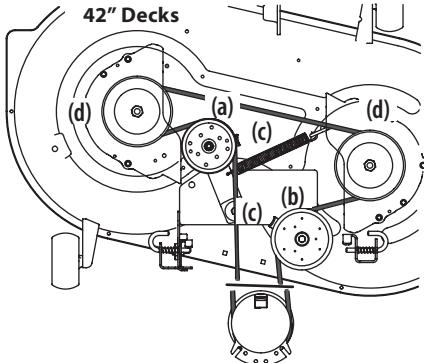
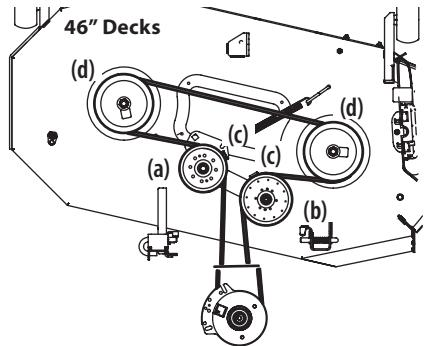
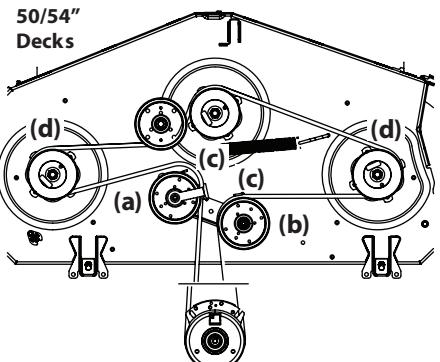
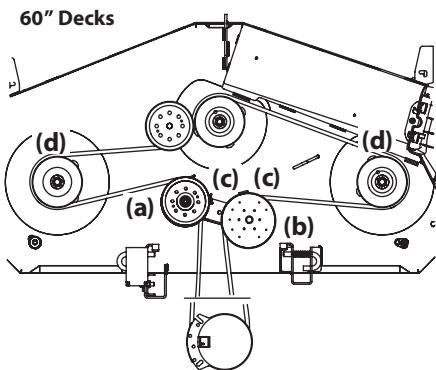

Figure 39
Figure 40
Figure 41
Figure 42
2. Loosen, but do not remove the hardware on the right (a) and left idler pulley (b). Refer to Figure 39 for 42" decks, Figure 40 for 46" decks, Figure 41 for 50" and 54" decks and Figure 42 on page 29 for 60" decks.